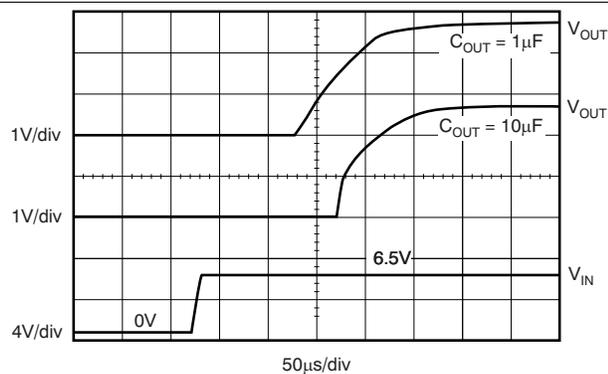

Figure 29. Turn-On Response
Note that for fastest startup, apply  $V_{IN}$  first, then the enable pin (EN) driven high. If EN is tied to IN, startup is somewhat slower. Refer to Figure 29 in the *Typical Characteristics* section. The quick-start switch is closed for approximately 135  $\mu$ s. To ensure that  $C_{NR}$  is fully charged during the quick-start time, use a 0.01- $\mu$ F or smaller capacitor.